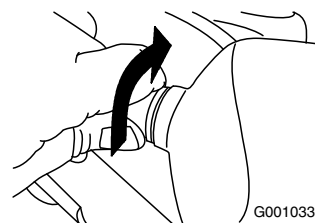

Figure 53
2. Turn the base of the bulb counterclockwise until it stops (Figure 53).